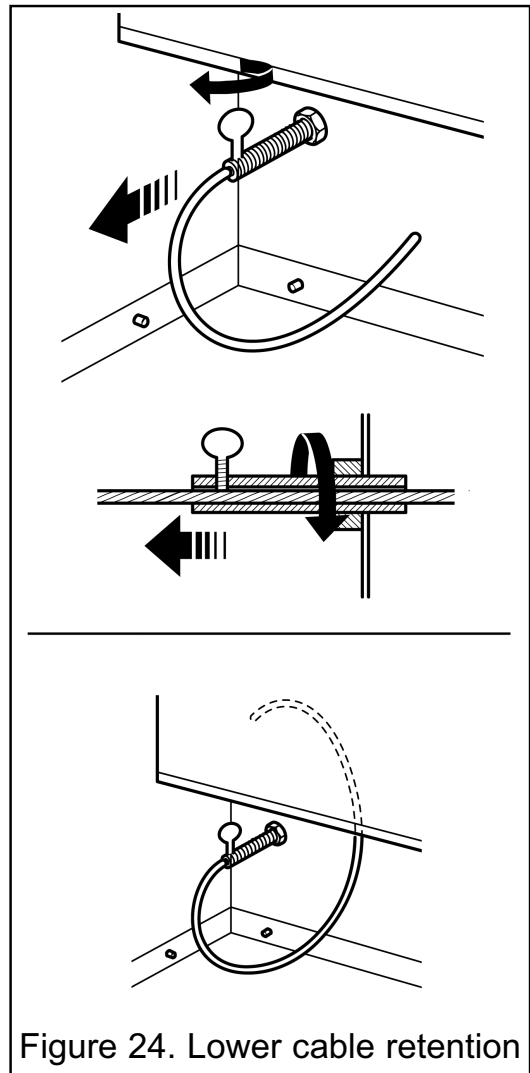

Figure 24. Lower cable retention
11. Pull each cable taut. Push the cable retainers hard up against the back panel. The end of the cable adjuster will pass into the hole. Tighten the screws in the retainers so that they clamp the cables in position. Apply tension to the cables by turning the hexagonal adjusters by hand (See figure 24).
14. Feed the free length of the cables into the gap between the inner and outer back panels so that they are available to allow easy removal and refitting of the appliance during subsequent service calls. **Do not cut off the free lengths of cable** (See figure 24).